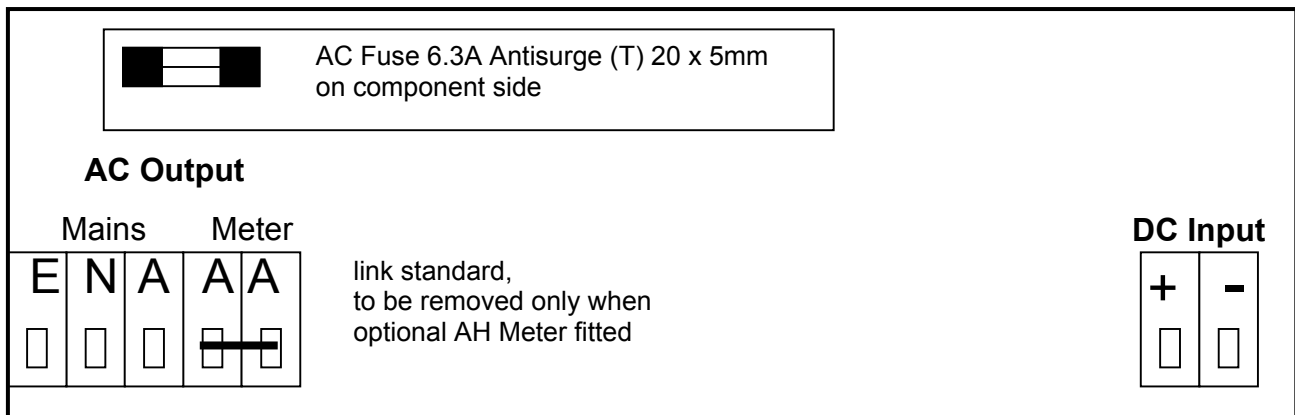

Figure 2
3. Next reconnect the AC grid. After 10 seconds the centre or 3rd light should begin flashing to indicate inverter reconnection to the AC grid. The light will flash for approx 90 seconds while the PV edge checks the mains voltage and frequency are stable. Should the light not begin flashing check if the AC grid is present. Also check internal fuse at top of circuit board above AC terminal block. (see Figure 2)